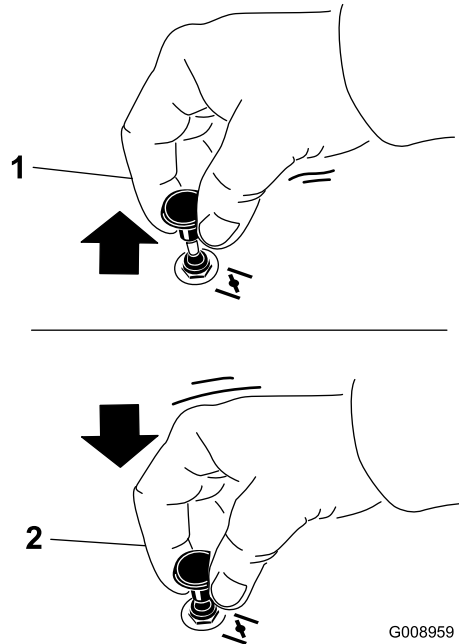

Figure 22
1. Pull up the choke knob to engage the choke before using the key switch (Figure 22).
2. Push down the choke knob to disengage the choke after the engine has started (Figure 22).